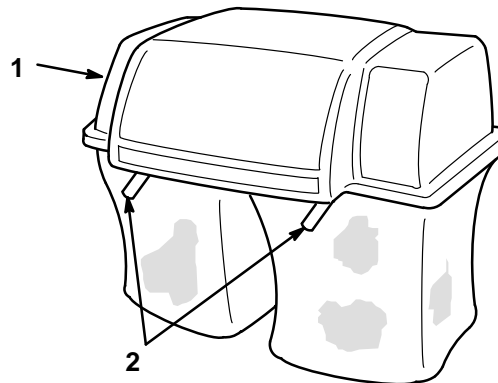

Figure 28
2. Raise the bagger top and remove the grass bags from the bag frame (Fig. 28).